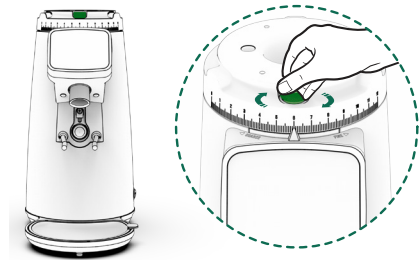

Fig. 3
**12.3.3** To avoid losing the position of the regulator scale with respect to the current grinding point, it is essential to tighten the setting of the grinding regulator using the adjusting brake (6) by turning it clockwise (Fig. 3).